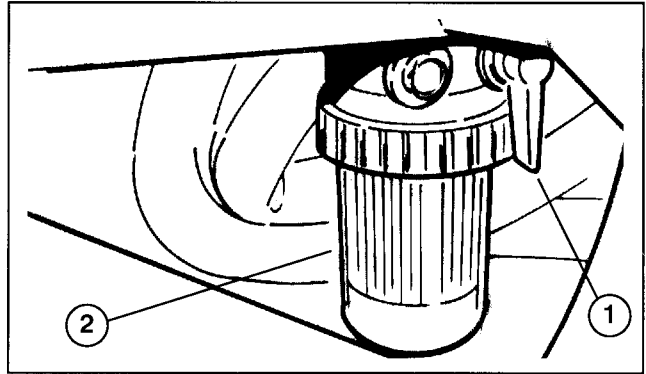

Figure 57
2. If only the filter is to be changed, remove reservoir cap and insert reservoir plug (Fig. 57), to block outlet.
REPLACING FUEL FILTER (Fig. 57)